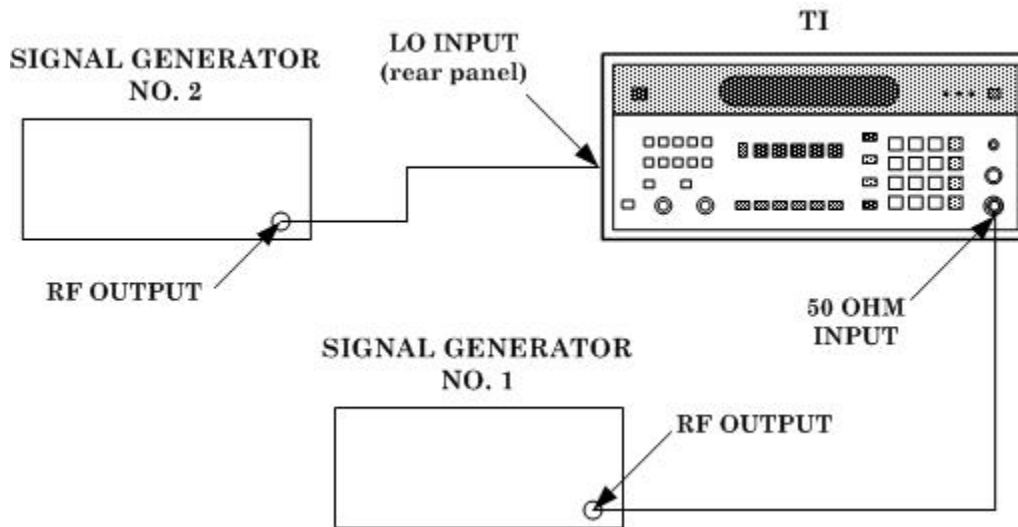

Figure 19. High select filters – equipment connection.
(11) TI display will be ≤ -30 dB.
(12) Decrease signal generator No. 1 frequency by 3 kHz.
(13) TI display will be ≤ -80 dB.
(14) Tune signal generator No. 1 up until TI indicates 0 dB, and then continue on until TI indicates -6.00 dB.
(15) Record signal generator No. 1 frequency as Freq. #2.
(16) Subtract Freq. #1 from Freq. #2. The difference should be between 12.4 and 16.9 kHz.
(17) Increase signal generator No. 1 frequency 18.5 kHz above frequency recorded as Freq. #1.
(18) TI display will be ≤ -30 dB.
(19) Increase signal generator No. 1 frequency by 3 kHz.
(20) TI display will be ≤ -80 dB.
(21) Connect equipment as shown in figure 19 below.
(22) Set signal generator No. 1 for a frequency output of 800 MHz at a level of 0 dB.
(23) Set signal generator No. 2 for a frequency output of 800.455 MHz at a level of 0 dB.